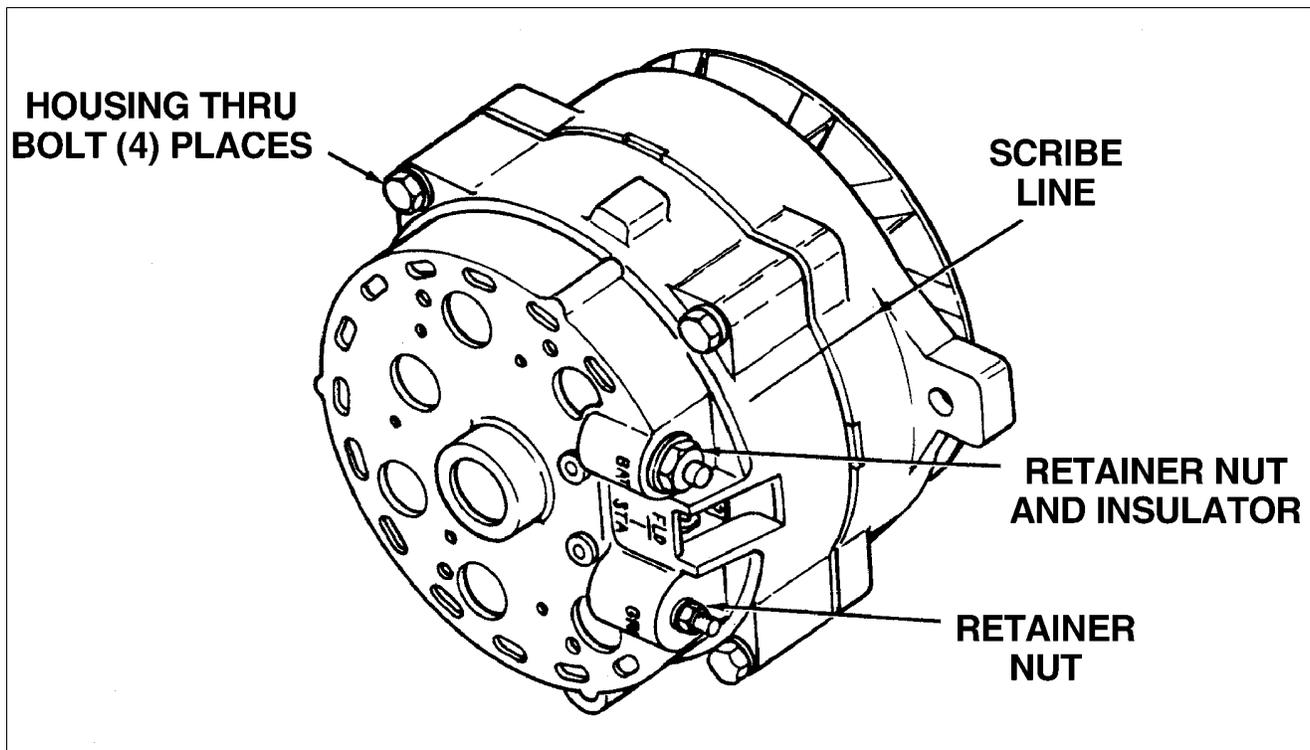

Figure 24-9. Alternator Housing Disassembly
- (1) Scribe a mark across stator and front and rear housings to facilitate alignment during assembly. (Refer to Figure 24-9.)
- (2) Separate front housing and rotor from rear housing by removing four thru bolts between housings. Remove rear housing.
- (3) Remove retainer nuts and insulators from the BAT and GRD terminals.